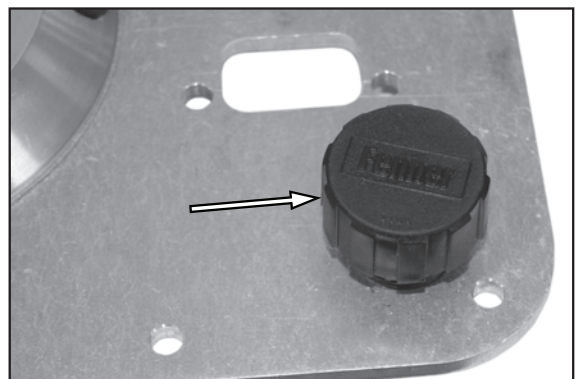

Figure 6.
3. See Figure 6. Remove the filler cap, and install a clean funnel with a filter.